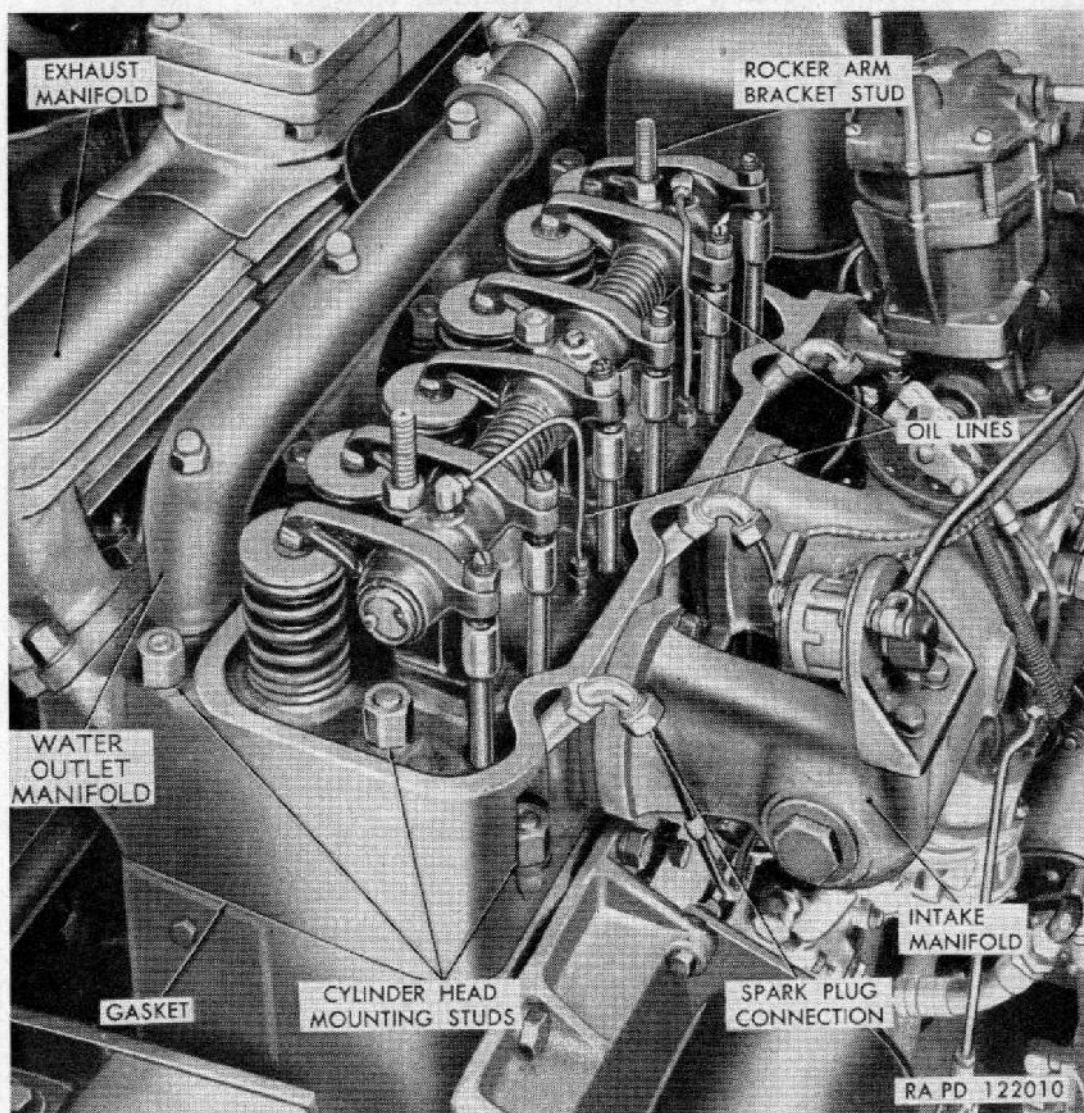
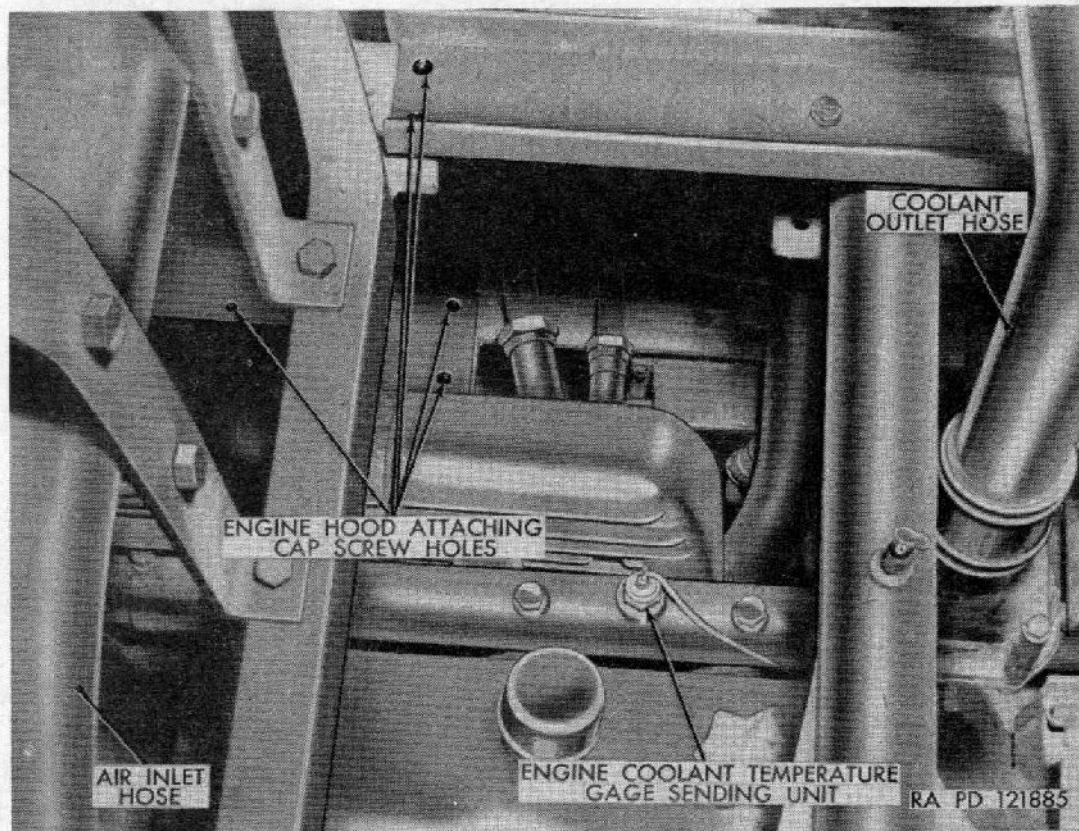

Figure 29. Cylinder head installed.
Figure 37. Removal details of hood frame assembly.
- (1) *Drain cooling system.* See paragraph 131.
- (2) *Remove exhaust manifold assembly.* See paragraph 98.
- (3) *Remove intake manifold assembly.* See paragraph 98.
- (4) *Remove water outlet manifold.* Loosen hose clamps and slide hose connecting water pipe to thermostat housing up on pipe. Remove two bolts and lock washers to disconnect bypass pipe from housing (fig. 78). Pull end of wire out of temperature gage sending unit at rear end of manifold (fig. 37). Remove the six acorn nuts from manifold studs (fig. 28) and lift manifold assembly off studs.
- (5) *Remove cylinder head assemblies.* Remove spark plug wires from spark plug connections (fig. 29). Unscrew handwheel nuts in rocker arm cover from studs (fig. 66) and lift covers and cover gaskets from cylinder heads. Disconnect lower
ends of rocker arm lubricating oil lines (fig. 29). Remove three nuts from the rocker arm bracket studs (fig. 29) and lift rocker arm assemblies off the studs. Remove 13 nuts from the cylinder head studs and lift cylinder heads and cylinder head gaskets off the studs.
- (1) *Install cylinder heads.* Clean all particles of carbon, rust, or corrosion from top of cylinder block and bottom of cylinder heads. Use compressed air to blow dust and dirt from cylinders and tops of pistons, and wipe off top of cylinder block and lower surface of heads. Lay new cylinder head gaskets on block over studs with crimped edges around holes downward (top side of new gaskets are marked "THIS SIDE UP"). Do not use any gasket cement on cylinder head gaskets. Install cylinder head and stud nuts, then working from center toward ends, tighten nuts evenly with a torque wrench to 175 foot-pounds torque.
- (2) *Install rocker arm assemblies.* Install new gasket and set rocker arm assemblies over studs in heads, and install and tighten rocker arm bracket stud nuts (fig. 29). Connect rocker arm lubricating oil lines (fig. 29).
- (3) *Adjust valves and install rocker arm covers.* Adjust valves as explained in paragraph 101. Install new cover gaskets and position rocker arm covers over cylinder heads and install the four handwheel nuts to secure the rocker arm covers to the cylinder head.
- (4) *Install manifold assemblies.* Cement new gaskets to attaching faces of water outlet manifold and set manifold on studs in cylinder head (fig. 29). Install and tighten the six acorn nuts on studs. Connect water bypass pipe to side of thermostat housing, and connect large water pipe to housing with hose clamps (fig. 78). Insert end of wire in temperature gage sending unit (fig. 37). Install exhaust manifold and intake manifold (par. 98). Fill cooling system (par. 131), start engines (par. 45), and inspect for water or oil leaks from assembled units.